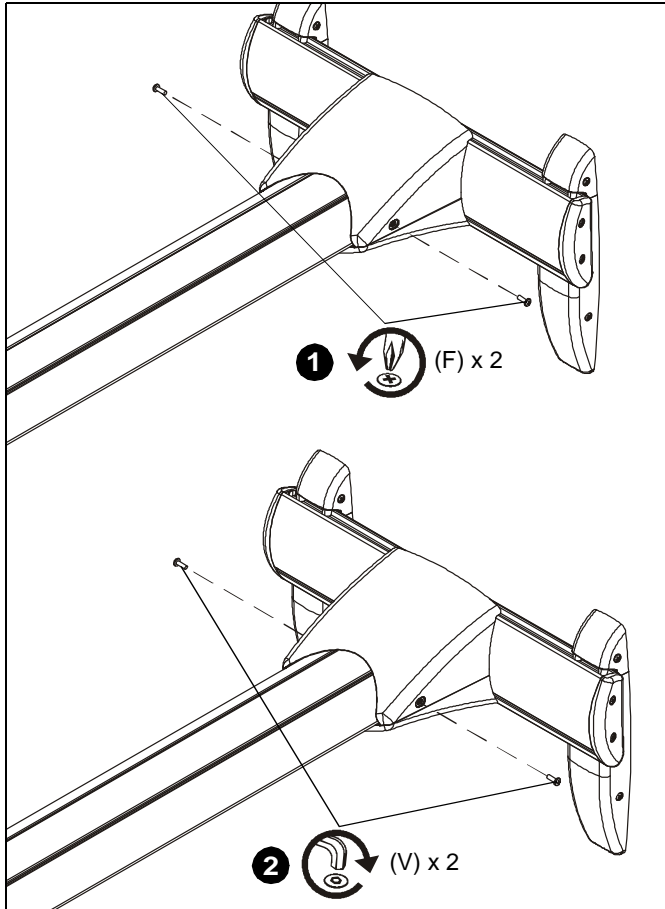

Figure 71
1. Remove two #8-32 x 1/2" Phillips pan machine screws (F) holding mount covers on projector arm. (See Figure 71)
2. Install two #8-32 x 1/2" button head security screws (V) into holes on mount cover. (See Figure 71)